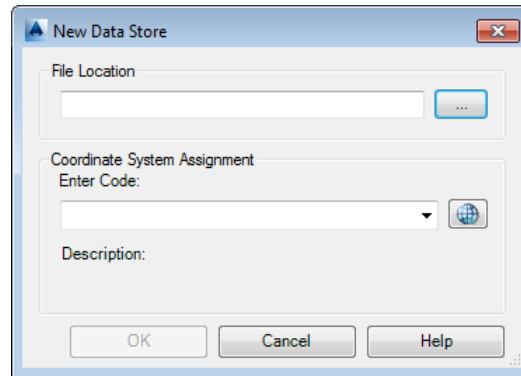

Figure 2-32 The New Data Store dialog box
3. In this pop-up menu, choose the **New Survey Data Store** option; the **New Data Store** dialog box is displayed, as shown in Figure 2-32.